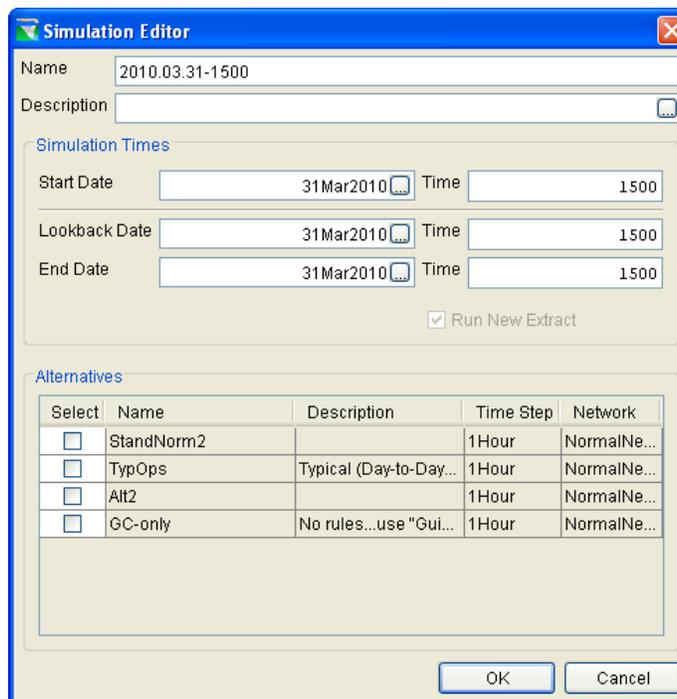

Figure 34. Simulation Editor
1. **Create/Open a Simulation.** To create a Simulation, from the **Simulation** menu select **New**. The window illustrated in Figure 34 will open [Sections 14.2 and 14.3].